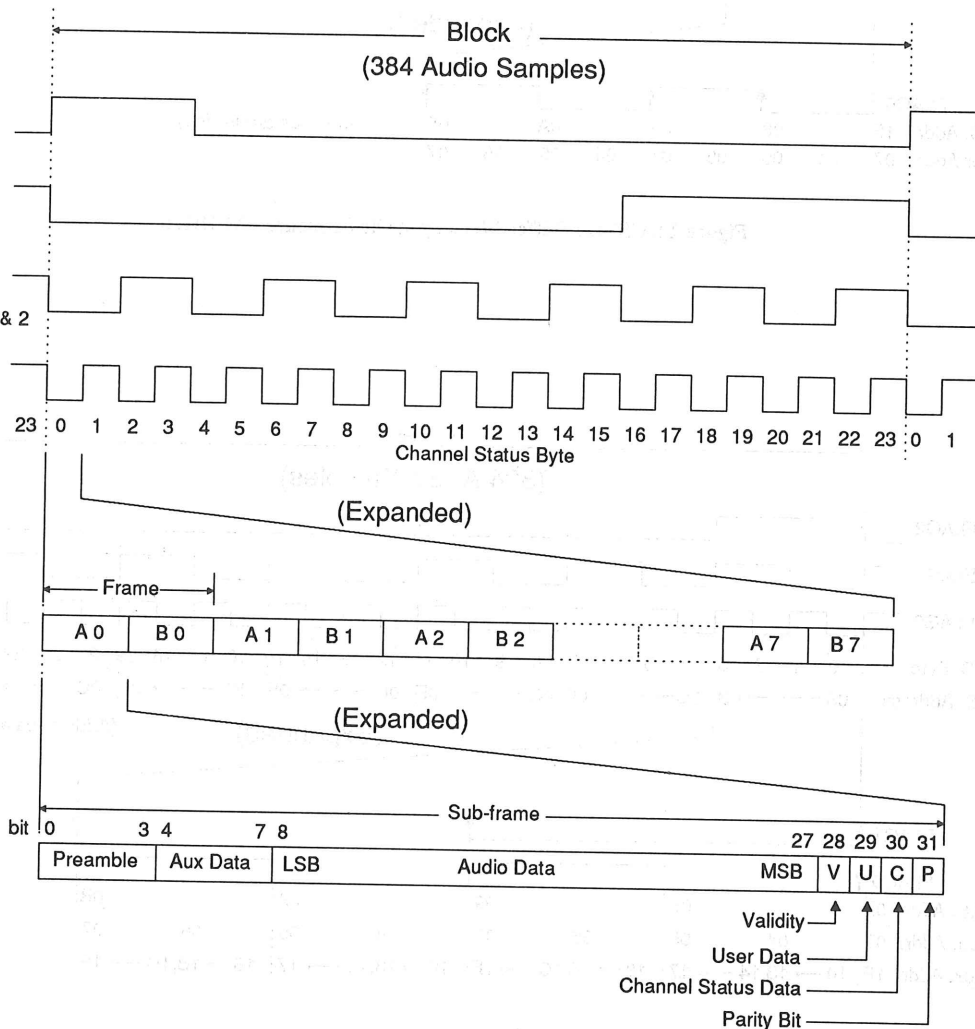

Figure 11. CS8411 Status Register Flag Timing
- FLAG1: Memory mode dependent - See Figure 11
Figure 11 illustrates the flag timing for an entire channel status block which includes 24 bytes of channel status data per channel and 384 audio samples. The lower portion of Figure 11 expands the first byte of channel status showing eight pairs of data, with a pair defined as a frame. This is further expanded showing the first sub-frame (A0) to contain 32 bits defined as per the digital audio standards. When receiving stereo, channel A is left and channel B is right.